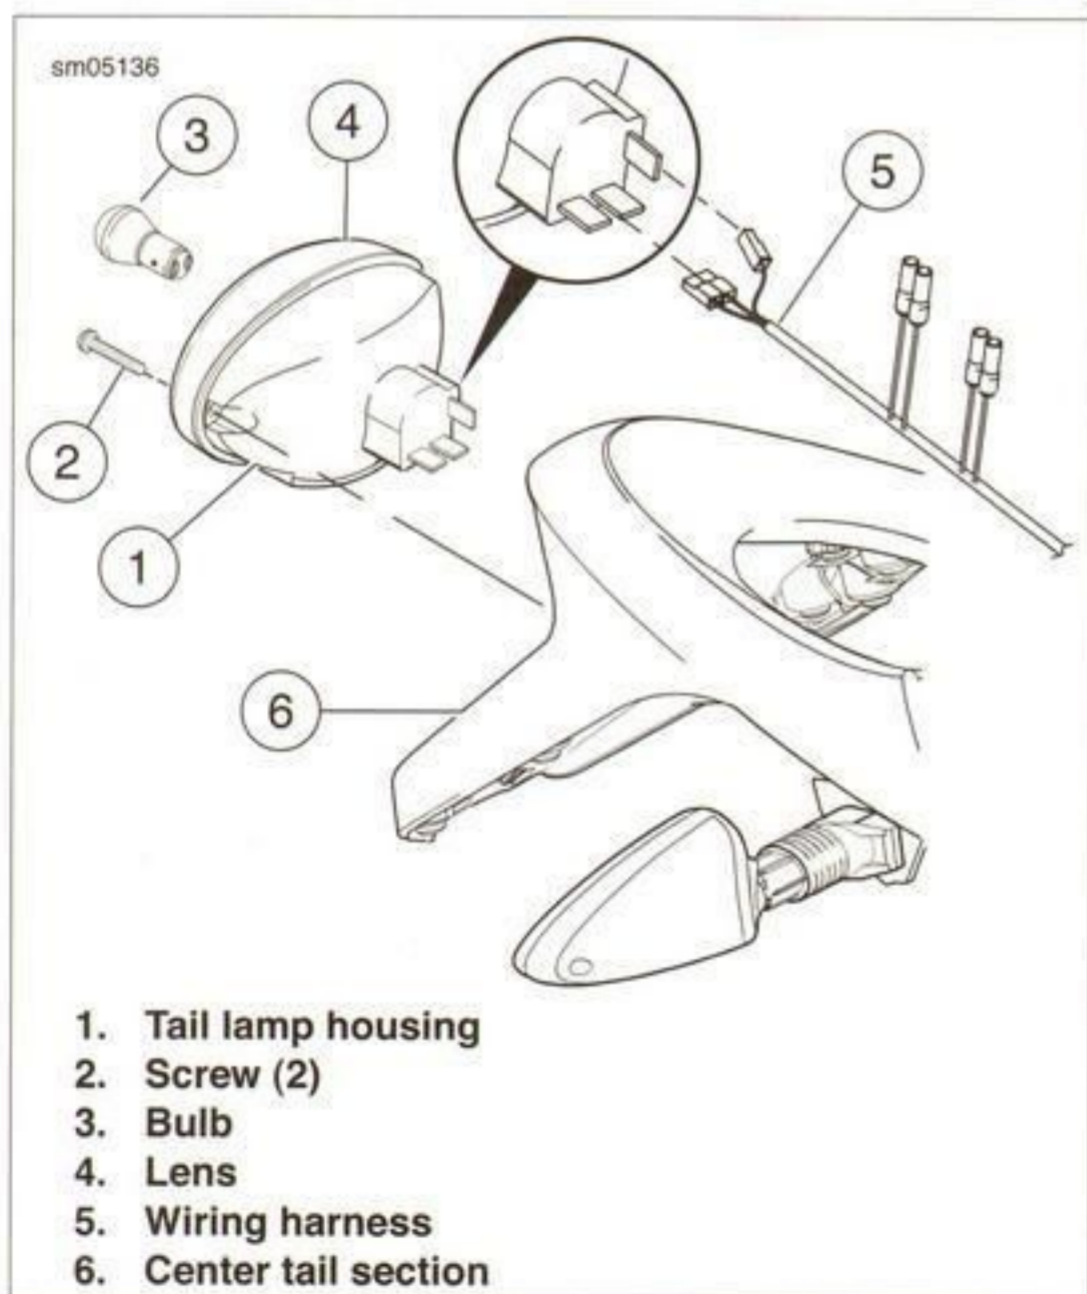

Figure 7-62. Tail Lamp Assembly
1. See Figure 7-62. Remove two screws (2) to detach tail lamp lens (4) and tail lamp (1). If replacing bulb (3), turn counterclockwise and remove.
2. Disconnect tail lamp harness (5) connectors [32, 33].
1. See Figure 7-62. Attach the tail lamp harness (5) connectors [32, 33].